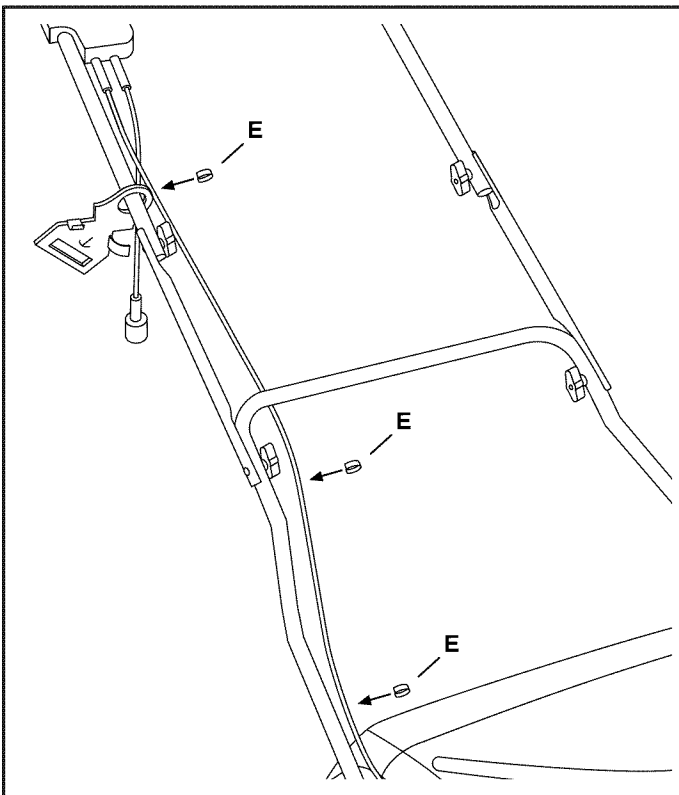

FIGURE 6
STEP 6: (SEE FIGURE 6)
- Secure the power cord to the upper and lower handle tubes using the power cord clips (E).